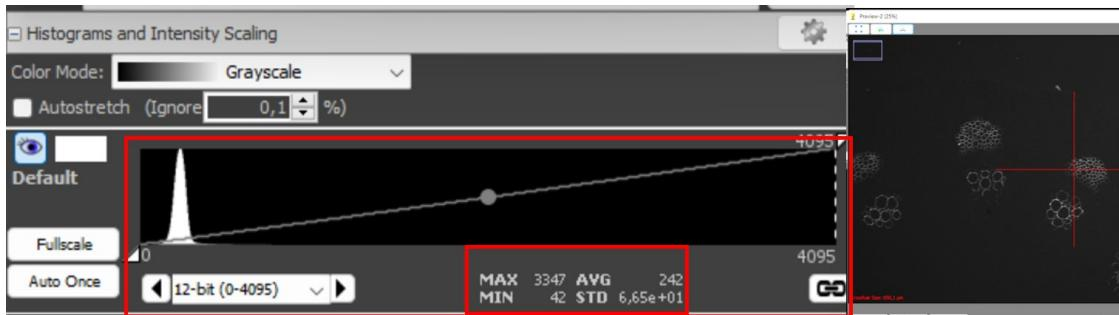

Figure 42: An example of a histogram where the range is large and clipping is avoided.
19. Once in focus, review the histogram and fine-tune exposure if needed. Examine the Min and Max values displayed underneath the histogram which give the intensity of the least and most saturated pixels (Figure 42). Remember, you want to maximise contrast and range but avoid clipping (having pixels at the lowest and highest intensity values). Ensure that there are not under- or oversaturated pixels. For a 12-bit monochrome image, there should not be pixels with an intensity value of 4095. If there are oversaturated pixels, decrease the exposure or LED intensity.
An example of a histogram with a good range that avoids over- or undersaturated pictures is shown below (Figure 42). Note that the shape of the histogram will vary depending on the type of sample you are imaging. For example, a sparse sample will have more low-value pixels than a dense sample.